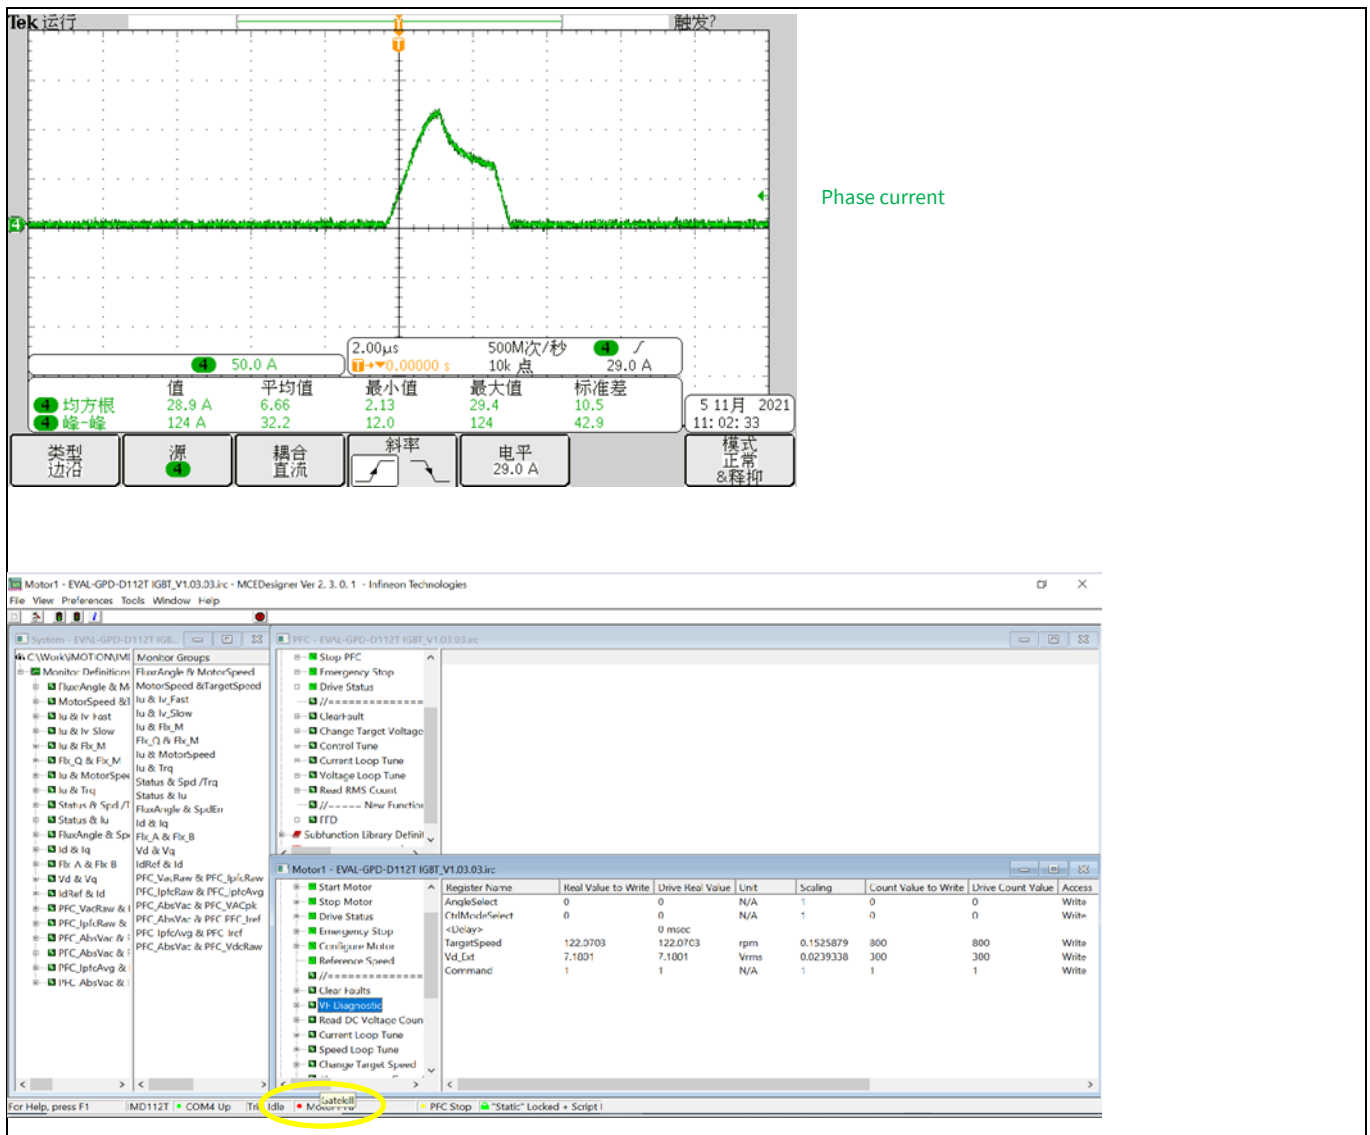

Figure 27 Inverter short-circuit protection
- System was protected properly; in the MCEdesigner, the status changed to a red flag; as activated by the Gate Kill pin (see Figure 27)